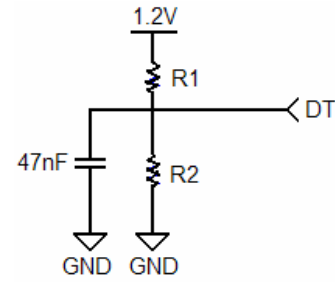
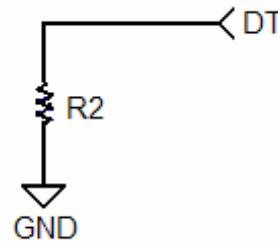

FIGURE 32A.
FIGURE 32B.
The QLx4600-S30 is capable of maintaining periods of line silence on any of its four channels by monitoring each channel for loss of signal (LOS) conditions and subsequently muting the outputs of a respective channel when such a condition is detected. A reference current applied to the detection threshold (DT) pin is used to set the LOS threshold of the internal signal detection circuitry. Current control on the DT pin is done via one or two external resistors. Nominally, both a pull-up and pull-down resistor are tied to the DT pin (Figure 32A), but if adequate control of the supply voltage is maintained to within $\pm 3\%$ of 1.2V, then a simple pull-down resistor is adequate (as in Figure 32B). Resistors used should be at least 1/16W, with $\pm 1\%$ precision.
The internal bias point of the DT pin, nominally 1.05V, is used in conjunction with the voltage divider (R1 and R2) shown in Figure 32A to set the reference current on the DT pin.
For channels exhibiting more than 25dB of total loss (this includes cable or FR-4 loss) the DT pin should be configured for a reference sink current (coming out of the DT pin) of approximately 2 μ A. A typical configuration for a 2 μ A sink current is given in Figure 32C. If the configuration in Figure 32B is utilized, a 525k Ω resistor would be used.